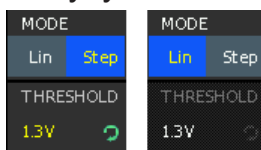

Figure 7-4: Appearance of active elements
- Elements selected have a blue background. For unavailable settings of functions, the selection shows dimmed. See Figure 7-4.